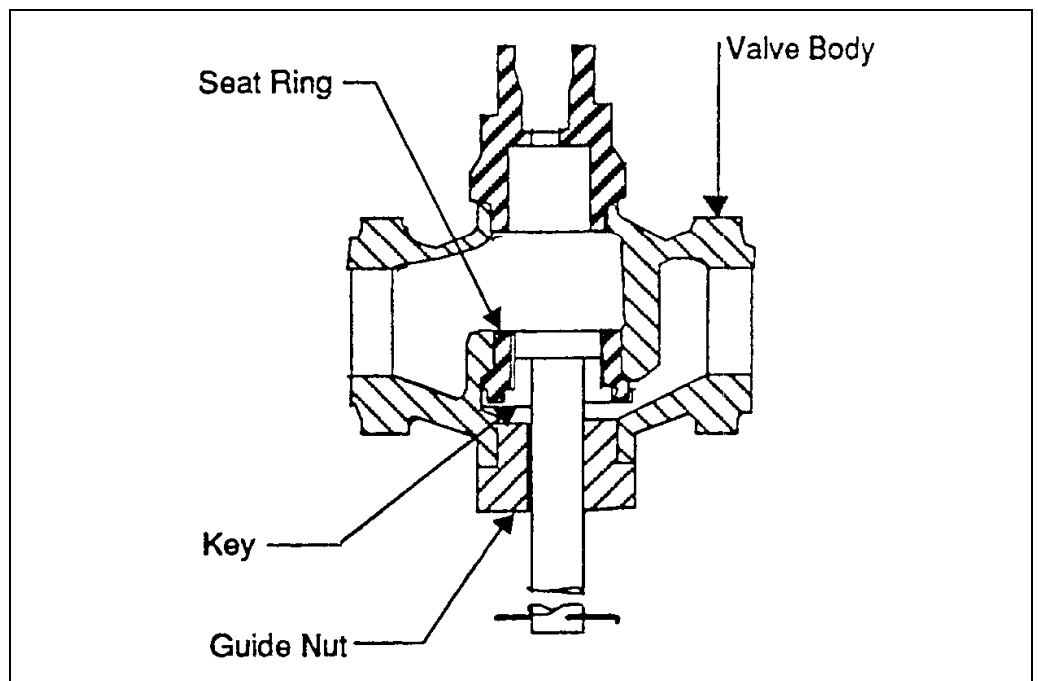

Figure 5: Seat Ring Removal
4. Unscrew upper seat ring from valve body. (Use tool if available shown in Figure 5 to remove seat ring.)